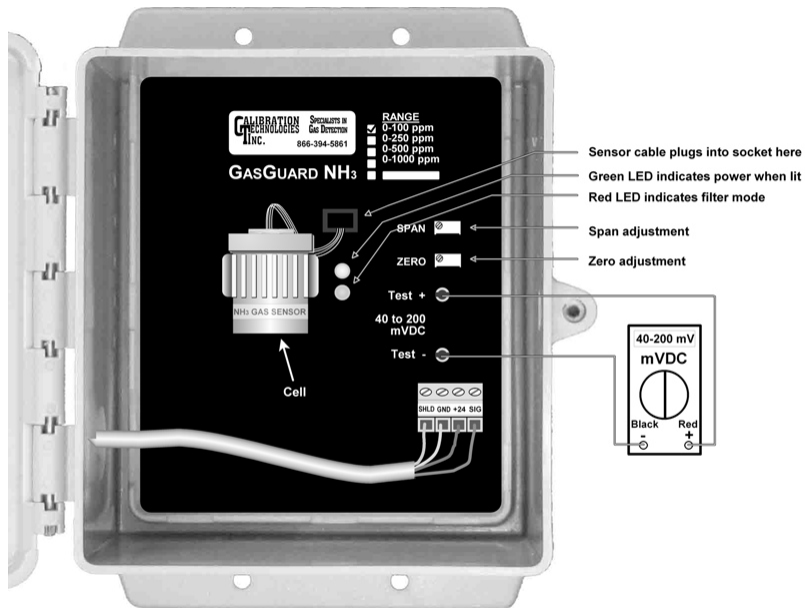

Figure 3: Sensor board components and zero/span adjustments
The GasGuard NH₃ Sensor comes factory calibrated and should require only minimal adjustments after installation. There are two pots on the preamp that are used for calibration (see **Figure 3**).
- Adjust the zero pot until the sensor outputs 40 mV from Test [-] to Test [+] (see **Figure 3**).
- Once the output signal has peaked (or two minutes maximum) adjust the span pot until the correct output is achieved (see **Figure 3**). With full-scale span gas, the calculated span value is 200 mVdc. ((span gas / sensor range * 16 + 4) (mA output))